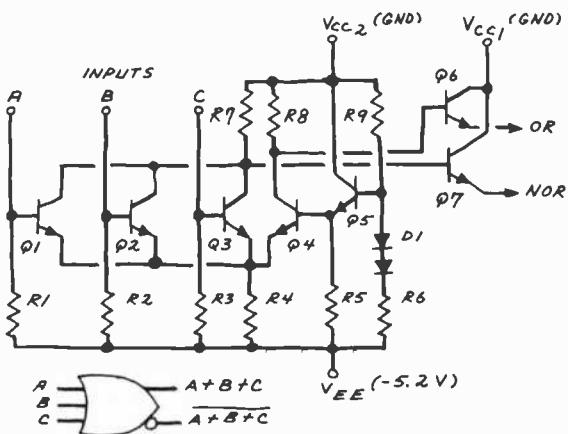

Fig. 1. An emitter-coupled logic (ECL) 3-input OR-NOR gate.
**A Micropower Digital Panel Meter.** Liquid-crystal displays have replaced LED displays in most digital watches and calculators. Now they are moving into new territory, and Fig. 1 shows one reason why: liquid crystal displays consume much less power than their LED counterparts. As you can see, the LCD display in Fig. 1 is being powered by a small solar cell array.
The product in Fig. 1 is a 3½-digit panel meter with 0.75-inch figures. The circuit uses CMOS technology to achieve a total power consumption of only 17.5 milliwatts (3.5 milliamperes at +5 volts). This permits the meter to operate continuously for several months on a single set of 4 AA alkaline penlight cells.
**A Typical ECL Gate.** The circuit and logic symbol of a typical three-input ECL OR/NOR gate is shown in Fig. 1. Depending upon your point of view, you can think of the cir-
Another important advantage of ECL is its ability to drive transmission lines and twisted pairs *directly*. This is a result of the open emitter output at an ECL gate (see Fig. 1).
Still another ECL advantage is that unused inputs need not be connected to  $V_{CC}$  or  $V_{EE}$ . This is because each input is connected internally to  $V_{EE}$  via a 50,000-ohm resistor ( $R_1-R_3$  in Fig. 1).